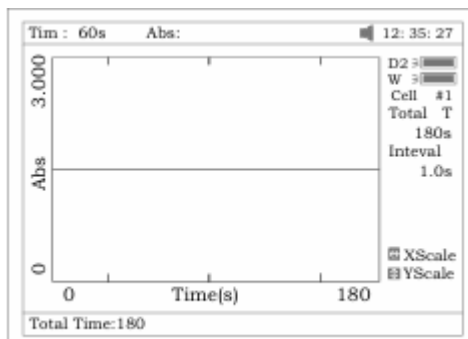

Fig.54
1. Press **[F1]** to set "Total Time", "Delay Time", "Time interval" and input the value by pressing the numeric keypad (Fig 54).